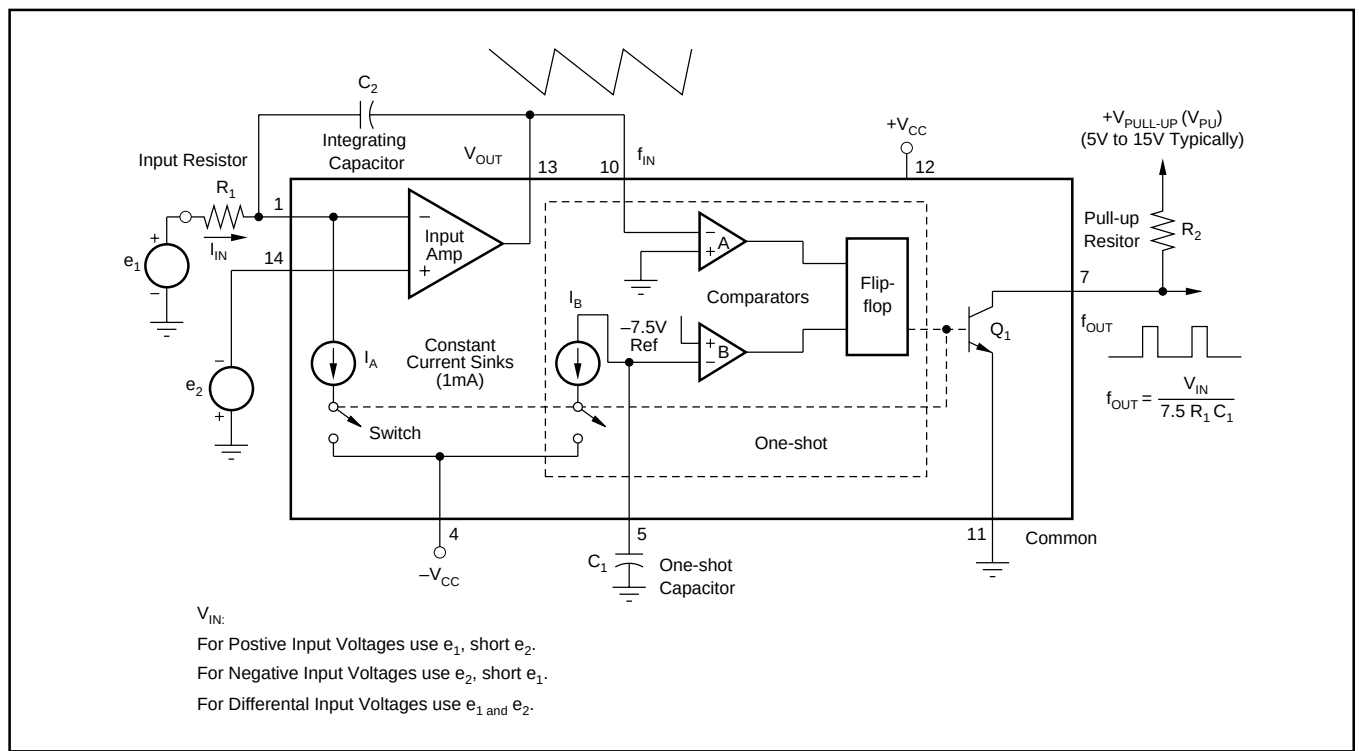
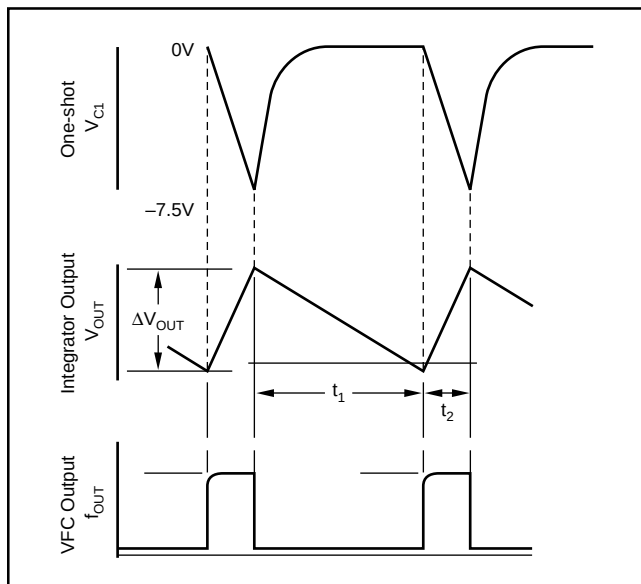

FIGURE 4. Functional Block Diagram of the VFC320.
FIGURE 5. Integrator and VFC Output Timing.
V/F CONVERTER $f_{OUT} = V_{IN}/7.5 R_1 C_1$, Figure 4
The VFC320 monolithic voltage-to-frequency converter provides a digital pulse train output whose repetition rate is directly proportional to the analog input voltage. The circuit shown in Figure 4 is composed of an input amplifier, two comparators and a flip-flop (forming a on-shot), two switched current sinks, and an open collector output transistor stage. Essentially the input amplifier acts as an integrator that produces a two-part ramp. The first part is a function of the input voltage, and the second part is dependent on the input voltage and current sink. When a positive input voltage is applied at V_{IN} , a current will flow through the input resistor, causing the voltage at V_{OUT} to ramp down toward zero, according to $dV/dt = V_{IN}/R_1C_1$. During this time the constant current sink is disabled by the switch. Note, this period is only dependent on V_{IN} and the integrating components.
The transfer function for the VFC320 is derived for the circuit shown in Figure 4. Detailed waveforms are shown in Figure 5.
In general, the design sequence consists of: (1) choosing f_{MAX} , (2) choosing the duty cycle at full scale ($D_{FS} = 0.25$ typically), (3) determining the input resistor, R_1 (Figure 4), (4) calculating the one-shot capacitor, C_1 , (5) selecting the integrator capacitor C_2 , and (6) selecting the output pull-up resistor, R_2 .